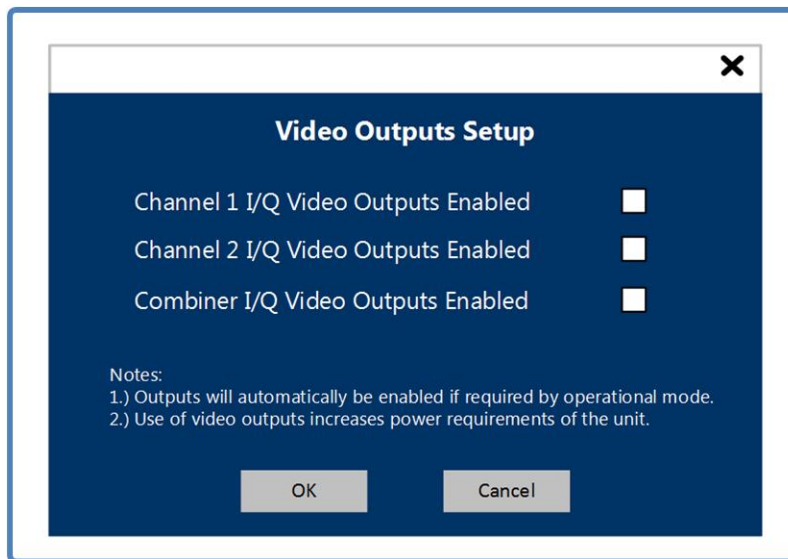

Figure 4-9 HW Setup – Video Outputs Setup Dialog Window
- vi. *Video Outputs* – Selection of this item allows the user to enable and disable the video output ports of the LS-28-DRSM. By default, the video outputs will be disabled to reduce power consumption. The use of video outputs should be based purely on need since use of all six available video outputs will result in the unit consuming up to 6 additional watts of power. Refer to Figure 4-9.